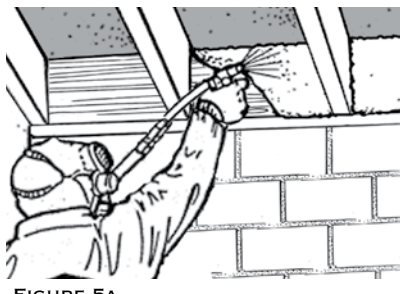

FIGURE 5A
a. Option 1: Use FROTH-PAK™ Foam Insulation kits up to 2 inches in thickness. (See Figure 5a.)